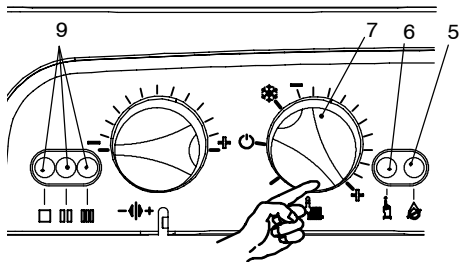

Fig. 7.5
- 3 Turn the boiler ON positioning the control selectors 7 in the positions as shown in as in Fig. 7.5 and ensure that the timer selector switch and room thermostat, if fitted, are set to "heat demand".
- 4 Watch the gauge and check to see if the ignition pressure registered corresponds to the values as given in the Technical Data. Turn off the boiler and reignite it by turning the function selector 8 to the OFF position and then back to that indicated in Fig. 7.5